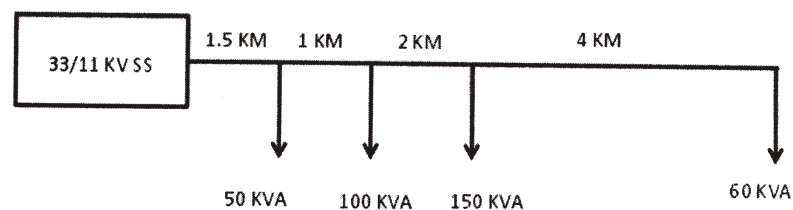

Fig. 3 : Load particulars of 11 kV line
18. Determine the voltage regulation of an 11 kV line with regulation constants 900, connecting from 33/11 kV substation. The loads connected to the line are shown in the Fig. 3 below :